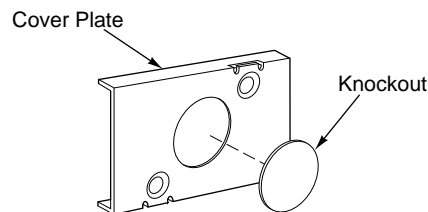

Figure-8 Cover Plate Knockout Removal.
1. Remove the knockout from the cover plate supplied with the actuator. Refer to Figure-8.